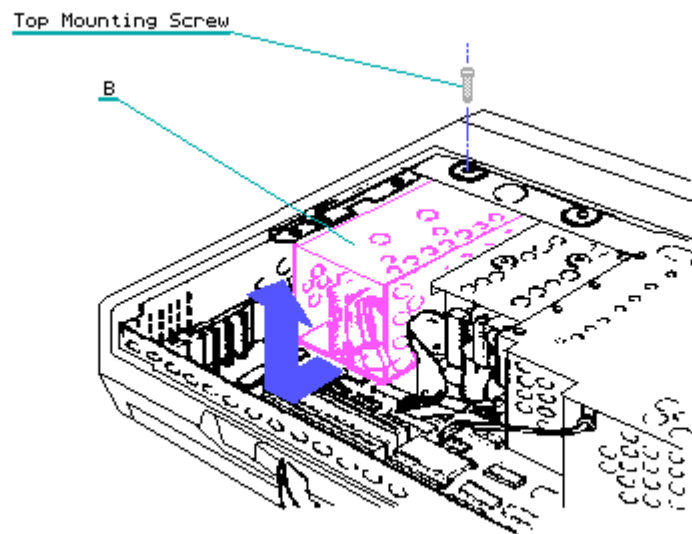

Figure 7.11-4. Removing Enclosure B from the Chassis
8. Remove the top mounting screw from Enclosure B (Figure 7.11-4).